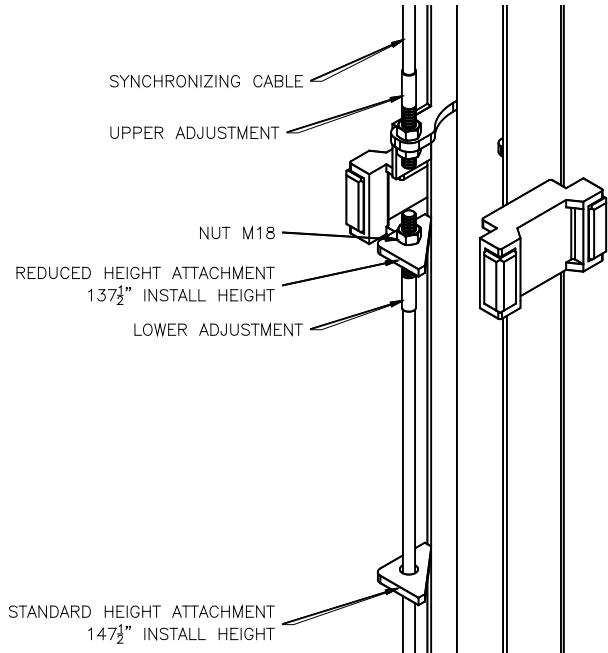

Fig 4 – Synchronizing Cables
- 16) Attach one end of synchronizing cable to carriage. See **Fig 4** for proper attachment.
- 17) Route cable up and over sheave in overhead. Follow across to other sheave on opposite column. Route down through carriage to sheave in bottom of column. Route under sheave and up to cable attachment. Lower attachment point is used for Standard Height Installation (175") and the Upper attachment point is used for Reduced Height Installation (166"). Use **Fig 4** for proper attachment.